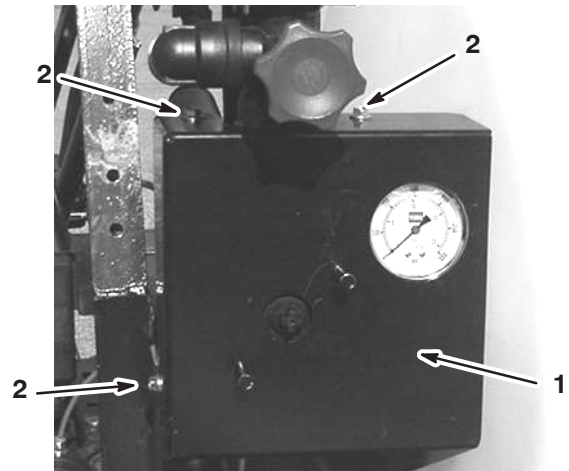

Figure 13
4. Install the cover on the control valve assembly (Fig.13), securing it with 3 bolts.